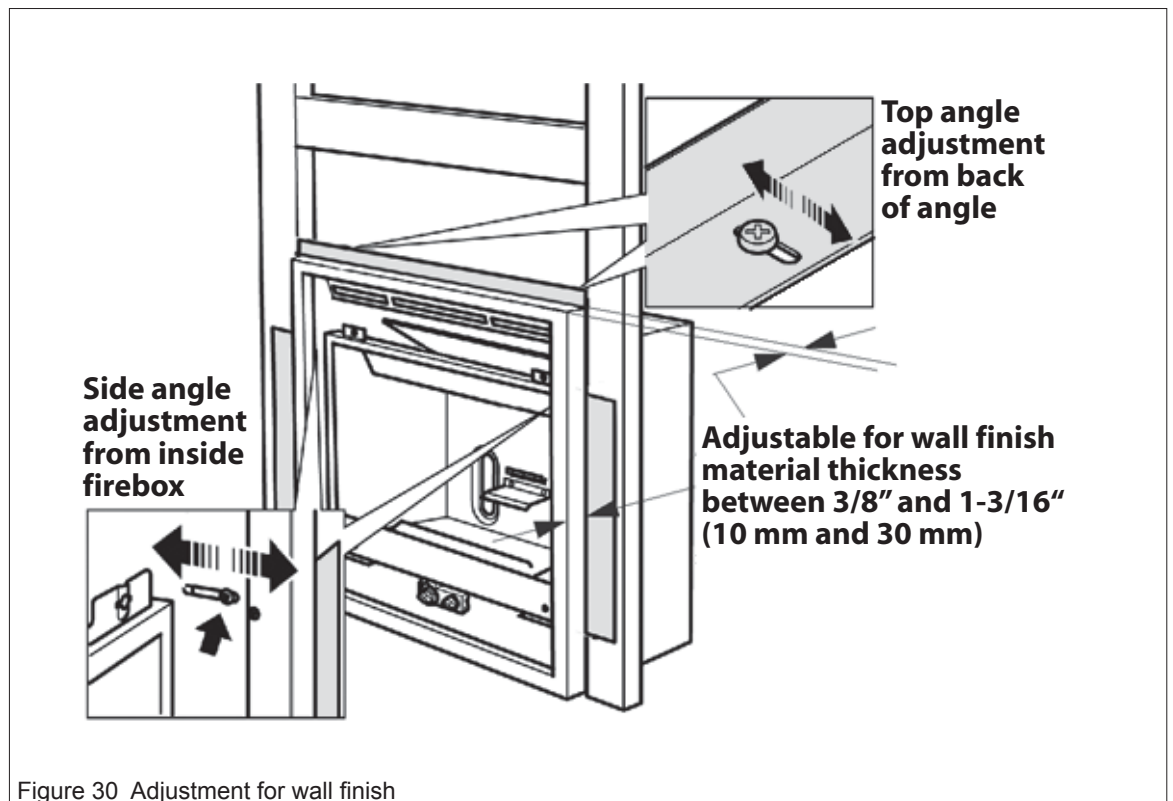

Figure 30 Adjustment for wall finish
See figure 30.
2. Free the appliance from the frame studding by removing the four screws inside the firebox securing the side angles. See figure 30. Slide the appliance forward to allow the terminal to be fitted.
11. If the appliance was freed from the frame studding, refit with the four screws inside the firebox securing the side angles. Position the appliance so that it is suitable for the wall finish. See figure 30.